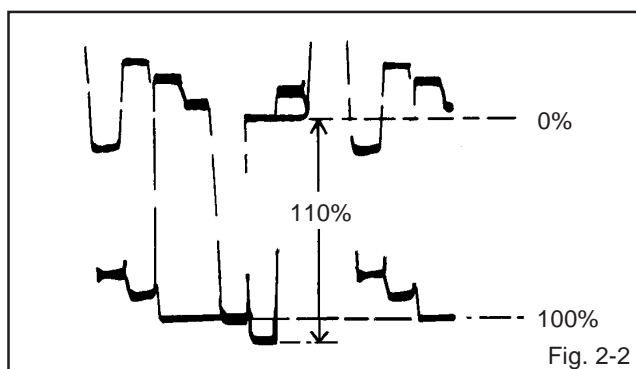

Fig. 2-2
7. Press the VOL. UP/DOWN button on the remote control until the red color level is adjusted to 110% of the white level. (Refer to Fig. 2-2)